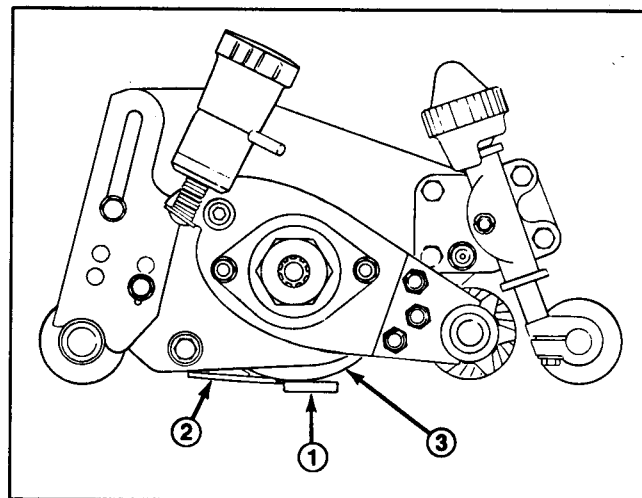

Figure 15
6. Position a 1/4 inch or thicker plate under the reel blades and against the front face of the bed-knife (Fig. 15).